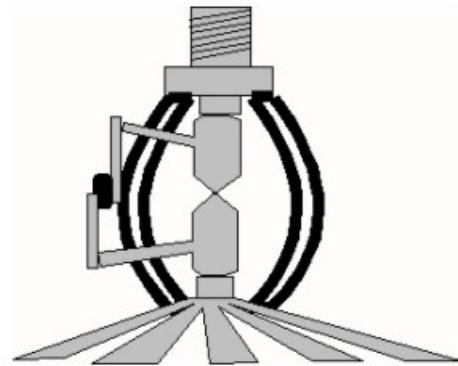

Figure 3 - Pendent Sprinkler Head
- **Sprinkler, Pendent** - A sprinkler designed for and installed with the head in a downward fashion from the piping, rather than placed in an upward position above the supply pipe. They are primarily used where upright sprinklers cannot be used because of lack of space (headroom) or where concealment of sprinkler piping above a false ceiling is desired because of aesthetic reasons (office areas). [See figure 3]